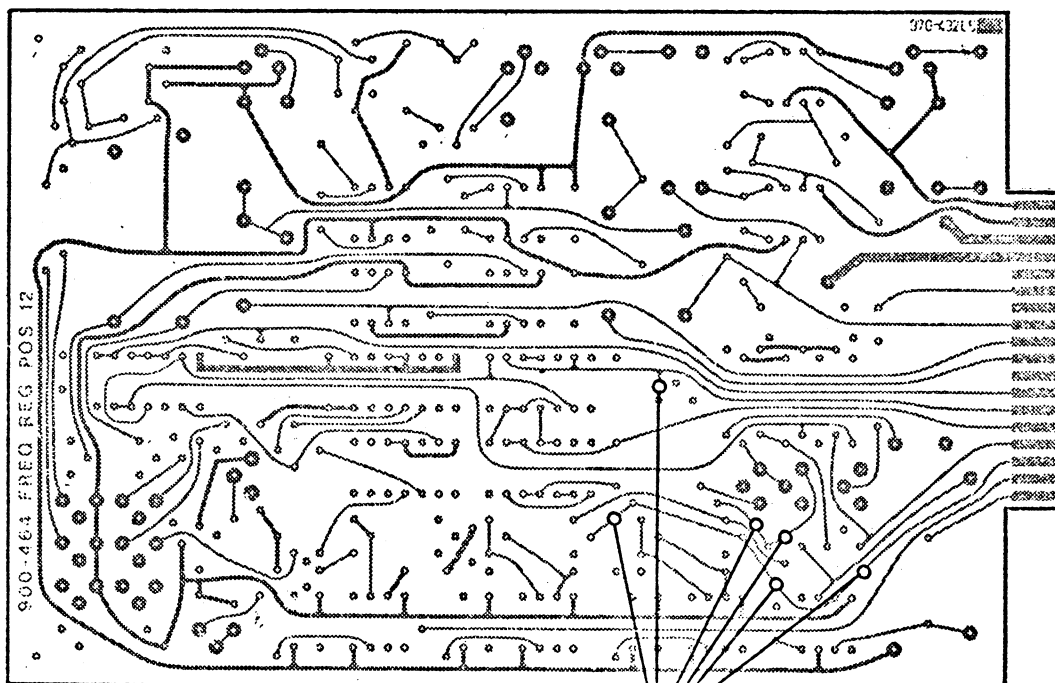

Fig. 2. Solder Side.
2. Using a sharp knife, remove 1-2 mm of the foils at the points as shown in Fig. 2.